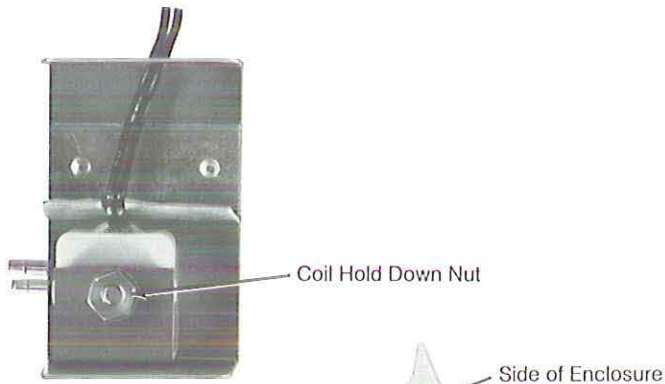

Figure 2. Coil Hold Down Nut Location
2. Remove coil hold down nut. (See Figure 2.)